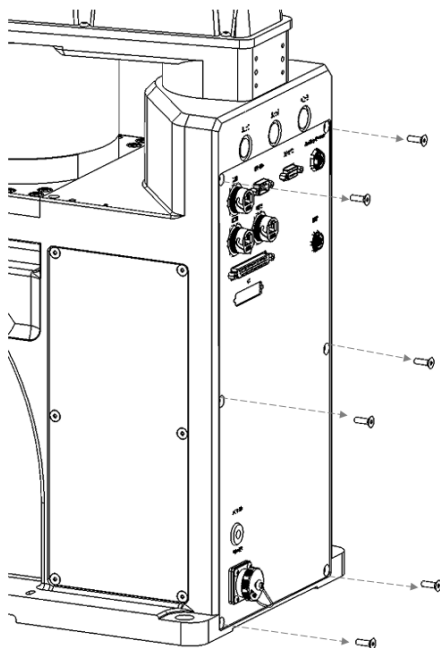

Figure 4-6 Removal of fastening screws
Step 2 Use 2.5 mm Allen wrench to remove the fastening screws from the interface panel, as shown in Figure 4-6.